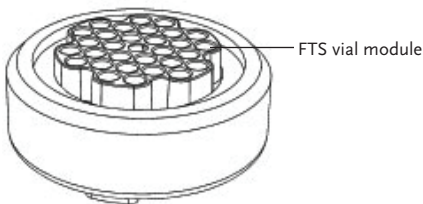

Figure 8
- Insert the plastic FTS Vial Module into the base and make sure that the skirt of the module is evenly seated on the foam shelf. Place 30 cryovials containing 1 ml of freezing medium into the module. Alternatively, the FTS Vial Module may be filled with vials remotely and then placed into the CoolCell FTS30 base. (**IMPORTANT: Do not place a vial in the center hole of the vial module. The center hole is part of the ventilation pathway and must not be blocked.**) (Fig. 8 and 9)